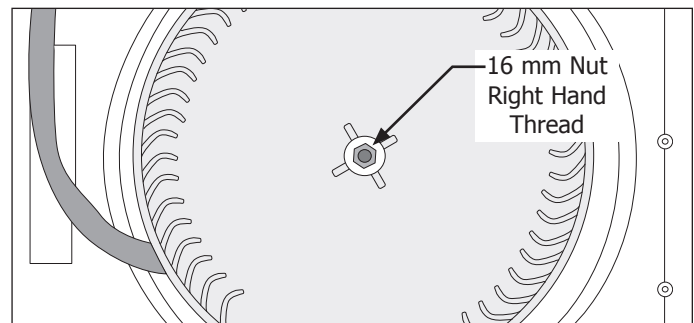

Figure 4-101.
10. Use an 16mm socket or wrench and remove the nut securing the blower to the fan motor shaft. Remove the lock washer and washer from shaft. Pull blower from motor shaft. (See Figure 4-101)